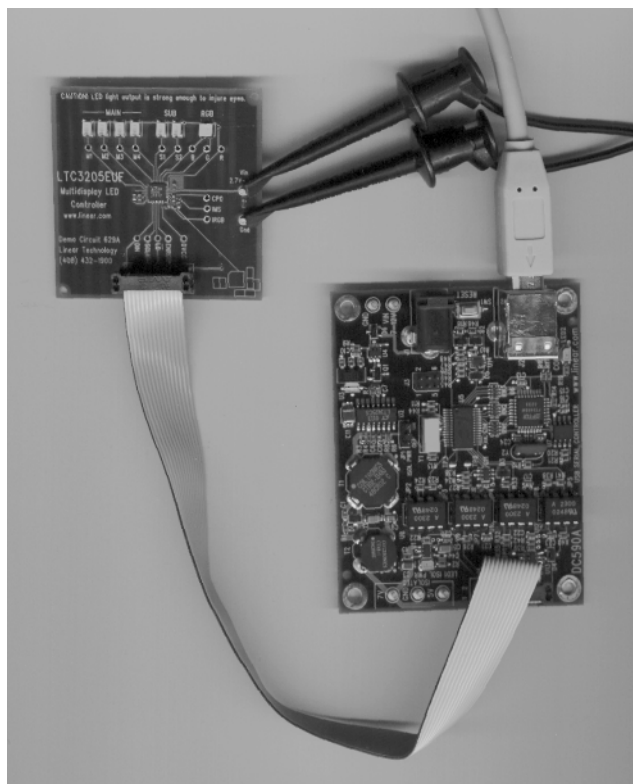

Figure 1. Proper Measurement Equipment Setup
Demonstration circuit 629 is easy to set up to evaluate the performance of the LTC3205. Refer to Figure 1 for proper measurement equipment setup and follow the procedure below:
1. Connect DC629 to the DC590 USB Serial Controller using the supplied 14-conductor ribbon cable as shown in Figure 1. Refer to the DC590 Quick Start guide for software installation details.